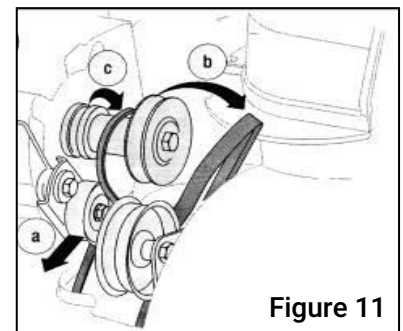

Figure 11
4. Roll the auger belts off the engine pulley only. Then roll the drive belt off the engine pulley. See Figure 11.